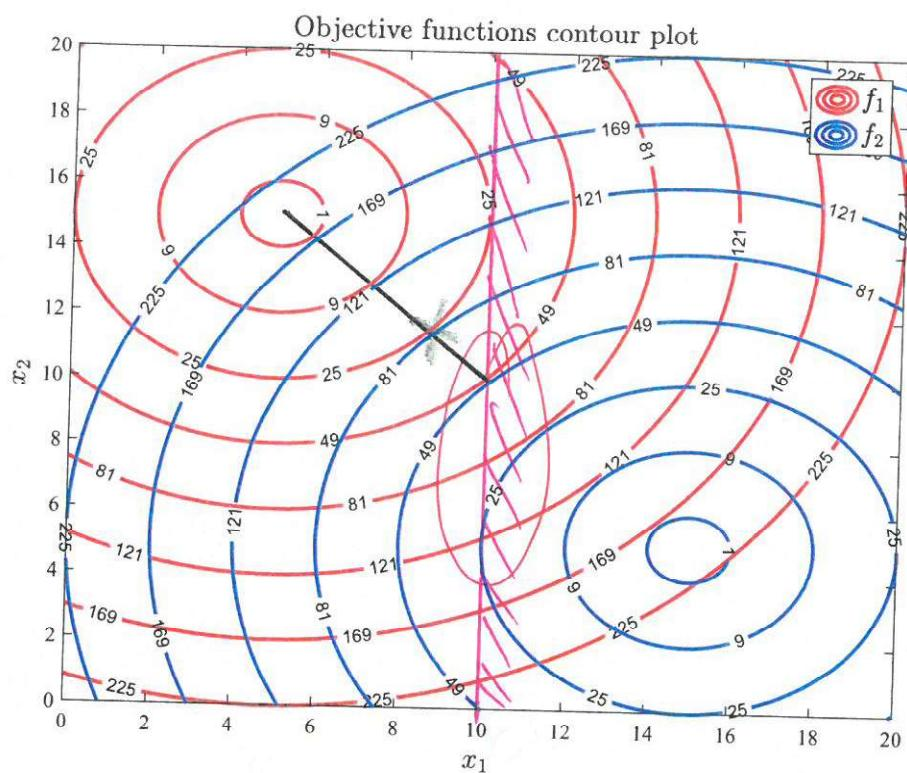

Figure 1: Contour curves and Pareto optimal points.
See pink line on attached plots Fig 1
- See black line on attached plots Fig 1